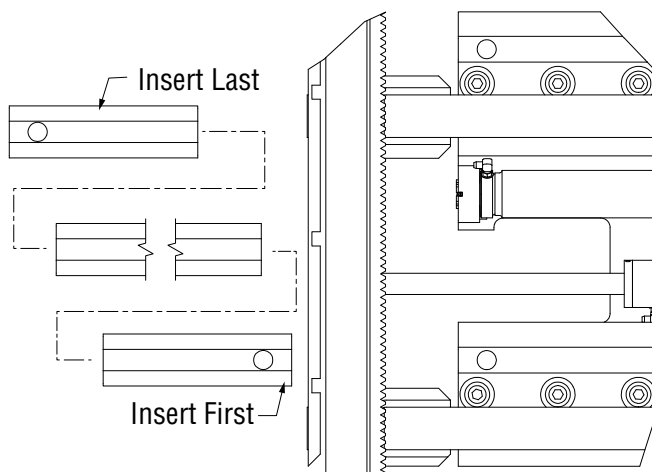

Figure 5-17, Wear Strips
6. Insert new wear strip end pieces with the plug hole first. Insert the wear strip center section. Use the rubber mallet to tap into channel. Tap the center wear strip in far enough to leave a lip on the channel to start the last end piece. Insert the last wear strip end piece with the plug hole out and tap into place lining up the retainer plug hole. (Figure 5-17)